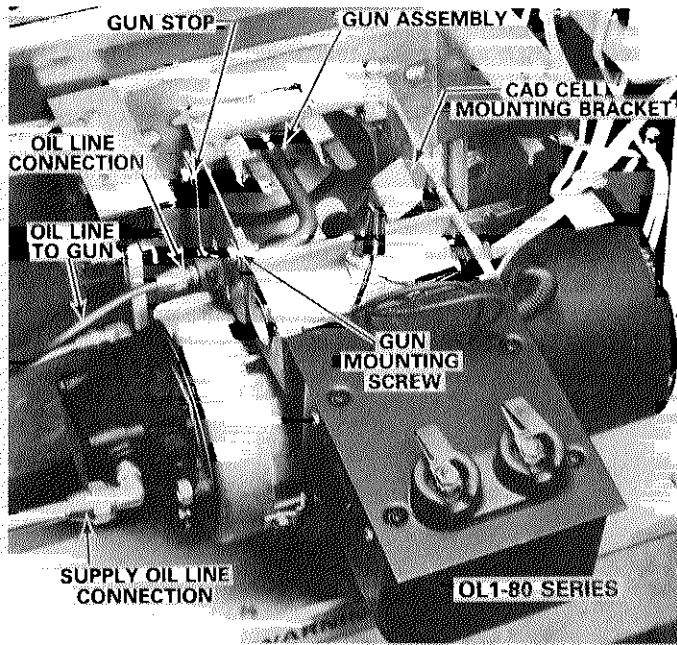

FIGURE 7
- 1 - Lift cad cell mounting bracket from slots at top of burner box and remove wiring leads. Refer to Figures 7 and 8.
- 2 - Remove screw securing gun assembly in place. See Figures 7 and 8.
- 1 - Insert gun assembly into housing with gun mounting plate firmly against gun stop and tighten gun mounting screw. Refer to Figures 7 and 8.